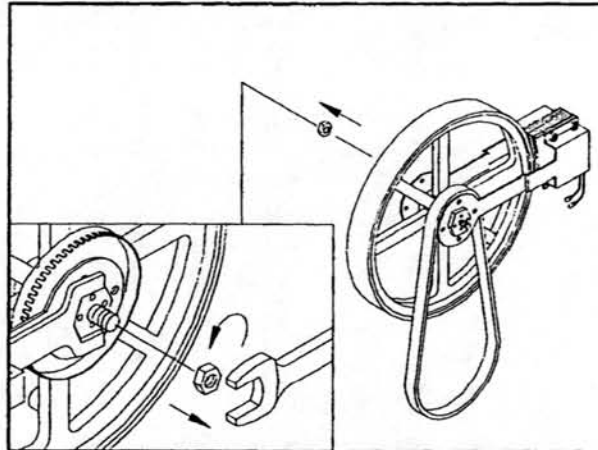

Fig.13-5
2. Use a wrench to fix the hexagonal head nut on the left side of the WHEEL (backside of the fig. 13-5) first. Also, use another wrench by turning counterclockwise direction to release the nut from the wheel.(see fig.13-5 and its enlarged figure).